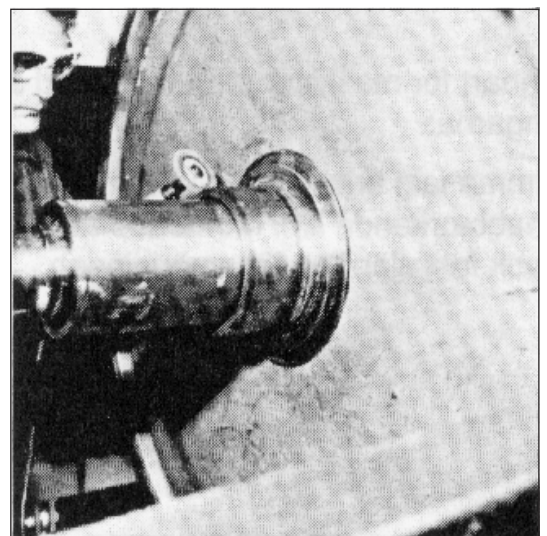

Figure 13. Removal of the bearing
28. Remove the inner bearing race by: grinding a 4 to 5 mm deep groove in the bearing race and then splitting the bearing race with a chisel, see figure 13.